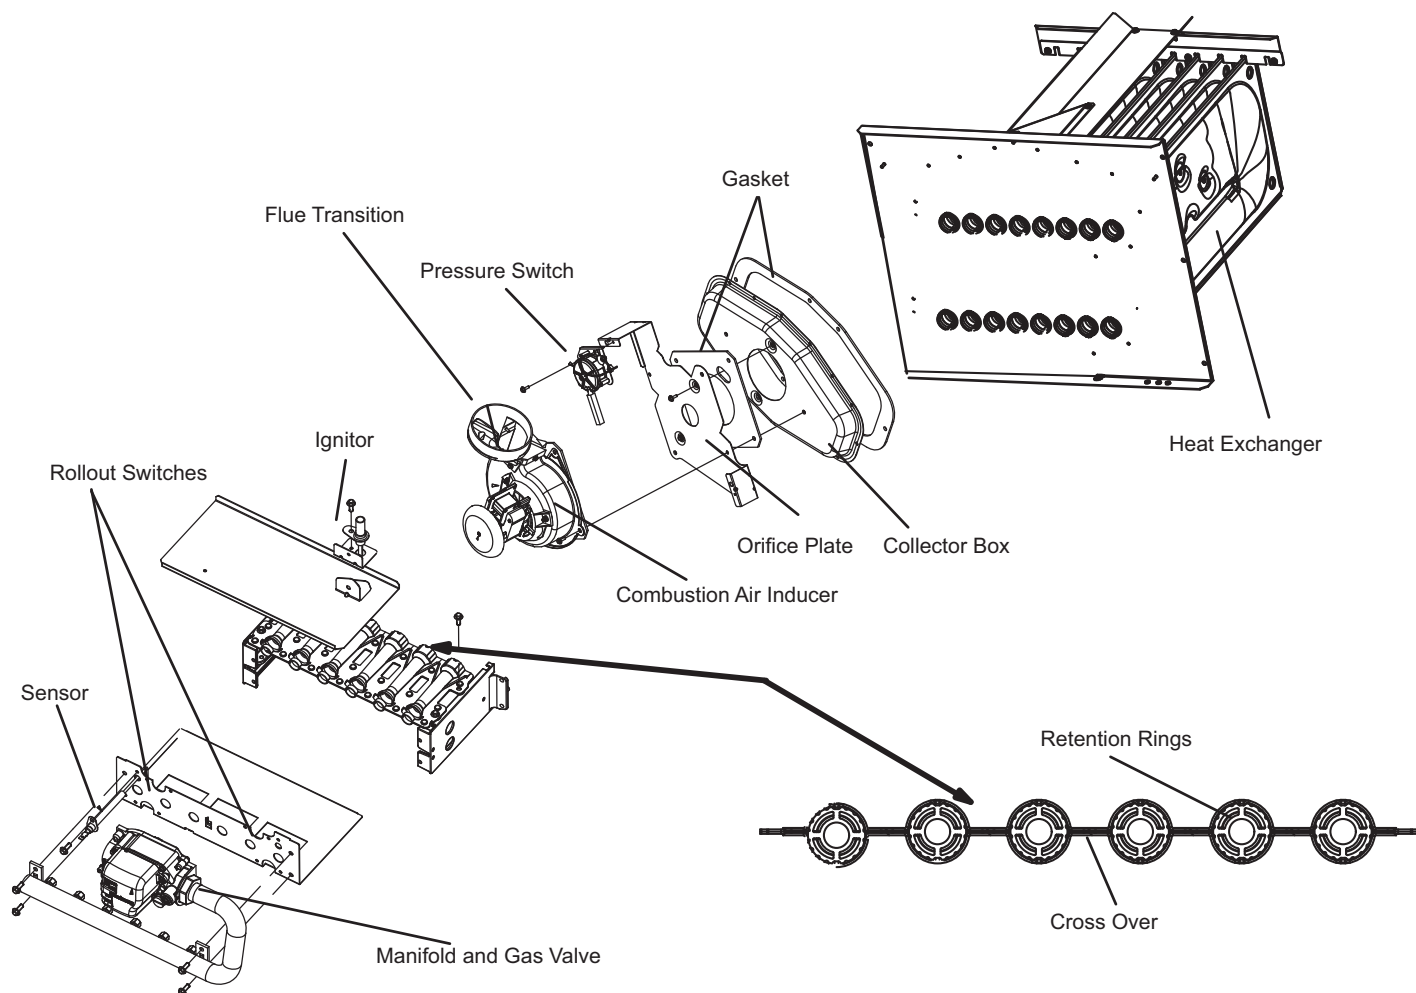

Figure 23. Burner, Combustion Air Inducer Assembly & Heat Exchanger Removal
10. To clean burners, run a vacuum cleaner with a soft brush attachment over the face of burners. Visually inspect inside the burners and crossovers for any blockage caused by foreign matter. Remove any blockage. Figure 23 shows burner detail.